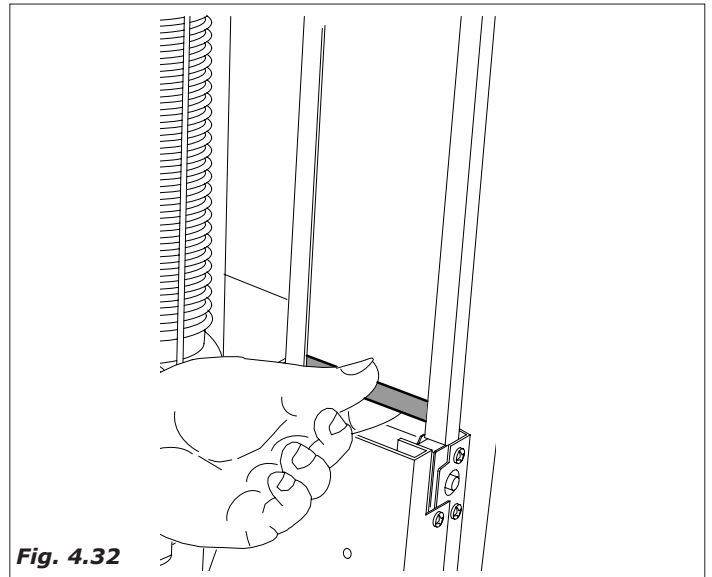

Fig. 4.32
- Remove the metal weight from the spoon dispensing column (Fig. 4.32)